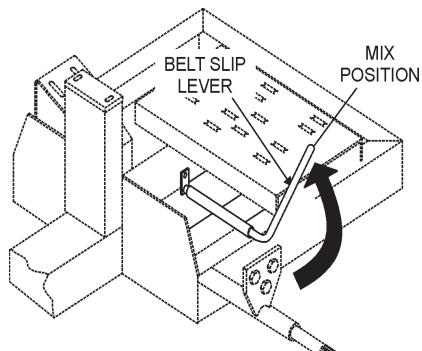

Figure 20. Belt Slip Lever (Mix Position)
8. Place the belt slip lever (Figure 20) in the **mix** position. This will tilt the engine placing tension on the V-belts enabling the shaft to rotate.
1. Place the **belt slip lever** in the **start/stop** position (Figure 20).